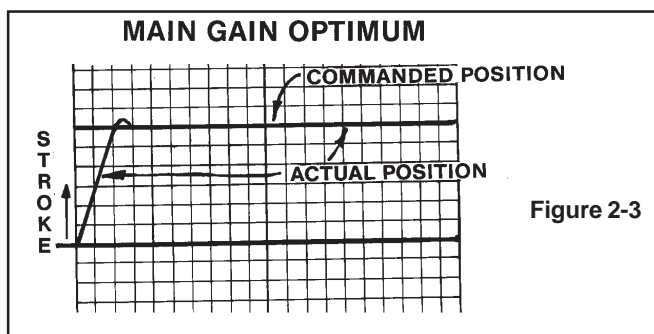

Figure 2-3
6. Adjust MAIN GAIN on inner loop SERVO AMPLIFIER MODULE to achieve trace as illustrated in figure 2-3 (optimum).
Figure 2-3 indicates slow valve shifting. Inner loop SERVO AMPLIFIER MODULE gain is too low. Adjust inner loop SERVO AMPLIFIER MODULE gain according to standard practices (in appropriate amplifier bulletin).
2. Apply +10vdc command signal to outer -loop SERVO AMPLIFIER MODULE. The main valve should open and LVDT test point voltage shall read approximately +10vdc. Adjust LVDT oscillator/internal calibrate potentiometer until +9.5vdc reading is obtained at LVDT test point. A command of +10vdc and feedback of +9.5vdc should indicate the pilot plunger has come in contact with "full open" stroke limit. This can be confirmed by observing an error to the 3-way servo and a rise in pilot servo torque motor current at the inner loop servo amplifier. Refer to Section II-H-2 Connect oscilloscope to outer-loop main valve AMPLIFIER MODULE LVDT test point. Apply step command from 0vdc to +5vdc and observe wave form on oscilloscope. Adjust GAIN on outer loop SERVO AMPLIFIER MODULE for 1-1/2 over shoots of waveform. Reference Similar Fig. 2-3.